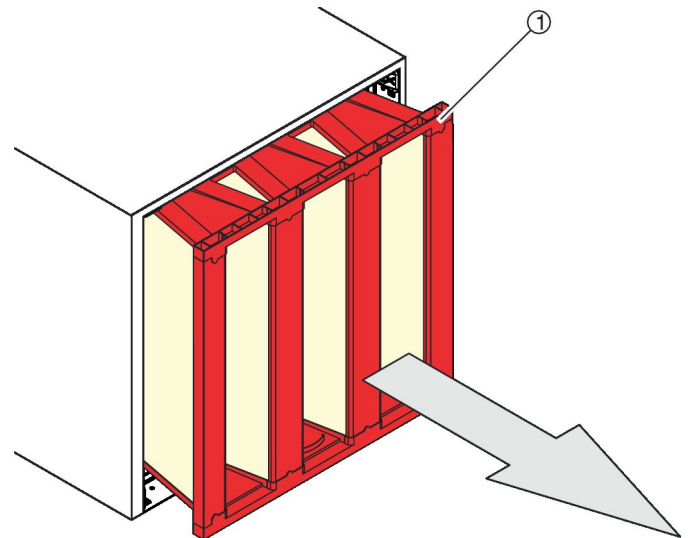

Fig. 54: Removing the filter element
4. ▶ Pull out the filter element (Fig. 54 /1).